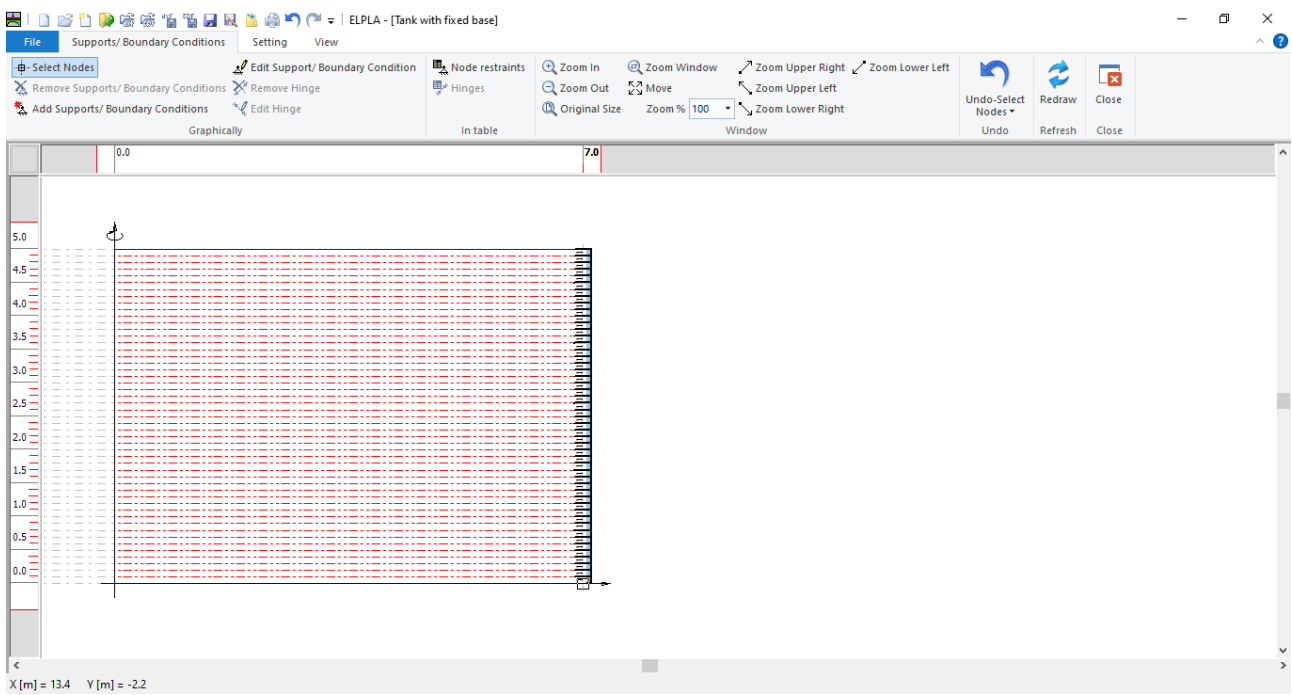

Figure 3.15 Selection of node that has a fixed support
- Click the left mouse button on the node that have the fixed support as shown in Figure 3.15